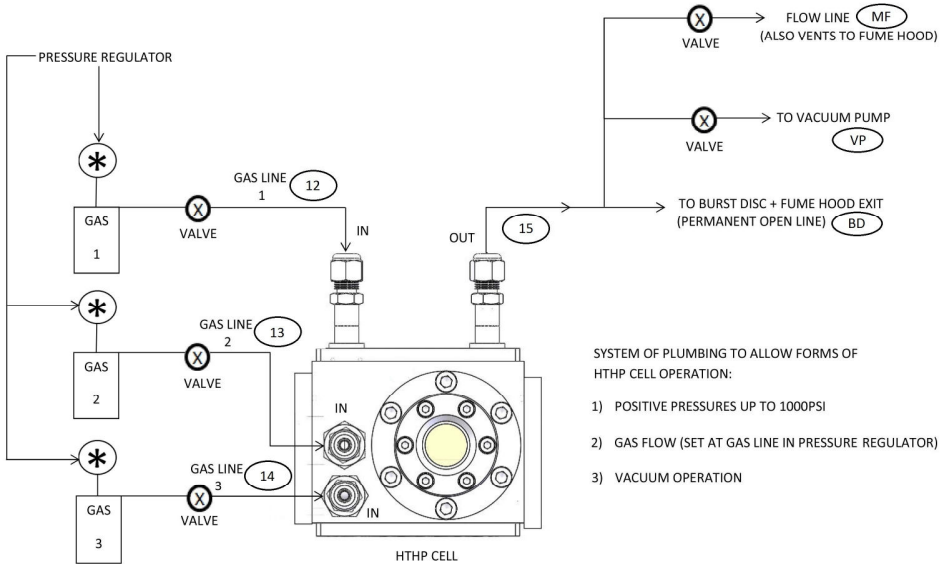

Fig 9. Inlet and Outlet Gas Connection Lines for Operation of the HTHP Cell
Note: *The supply gases and any appropriate tubing/plumbing, switches and valve regulators etc are normally to be sourced and provided by the user. (See Fig 9.)*
A system of plumbing for supply of gases to the inlet ports (12, 13 and 14) and the necessary connections that need to be made from the outlet connection port (15) of the HTHP Cell is shown for Fig 9.
From **Fig 9**, the burst disc assembly of parts **(21)** are installed, having been connected as a main open line **(BD)** with no open/shut in line valve restrictions from the main gas outlet port **(15)**. This open gas line **(BD)** for inclusion of the burst disc assembly of parts is ultimately routed for its terminal fitting of body **(22)** and perforated cap **(23)** and/or open end of tubing to emerge into a safe containment area such as a fume hood. Under any operating experimentation conditions, this **(BD)** line incorporating the burst disc assembly will be subjected to the same conditions of pressure, (high or vacuum conditions) or a flowing gas environment that can be achieved within the HTHP Cell chamber itself. If there was to be an over-pressurisation event within the cell chamber that would risk damage to the pressure certified window assemblies **(11)** then the excess pressure would activate the burst disc assembly (diaphragm ruptures) via the open **(BD)** line to evacuate any hot and potentially toxic and dangerous gases to the safe containment area away from the HTHP Cell chamber itself.